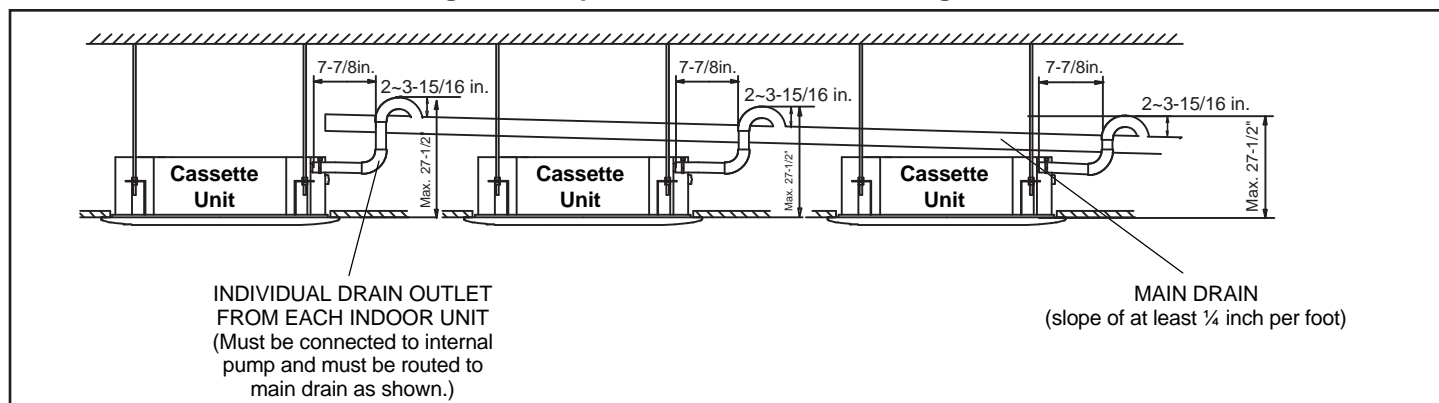

Figure 8. Using a Main Drain to Serve Multiple Indoor Units
4. See figure 8 for applications including multiple units using the internal pump to provide lift into a single, correctly sized main drain. In this case, ensure that the main drain line is properly sloped (no less than 1/4 inch per foot) and that each individual drain is connected to the main drain exactly as shown.